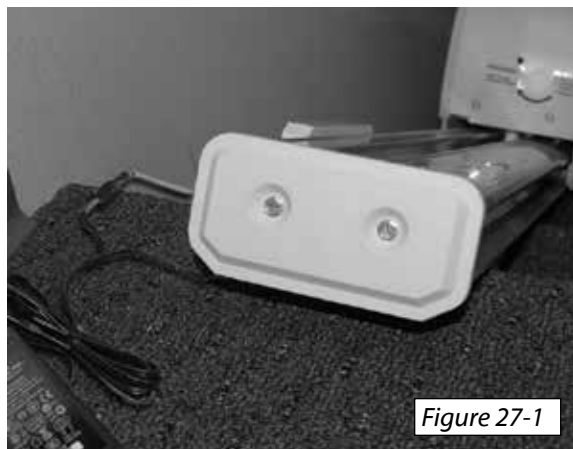

Figure 27-1
1. The power supply has a cord with a 2-pin connector that mates to a cable from the charge strips. Connect the power supply at either the top or bottom end of the rail. [Figure 27-1]